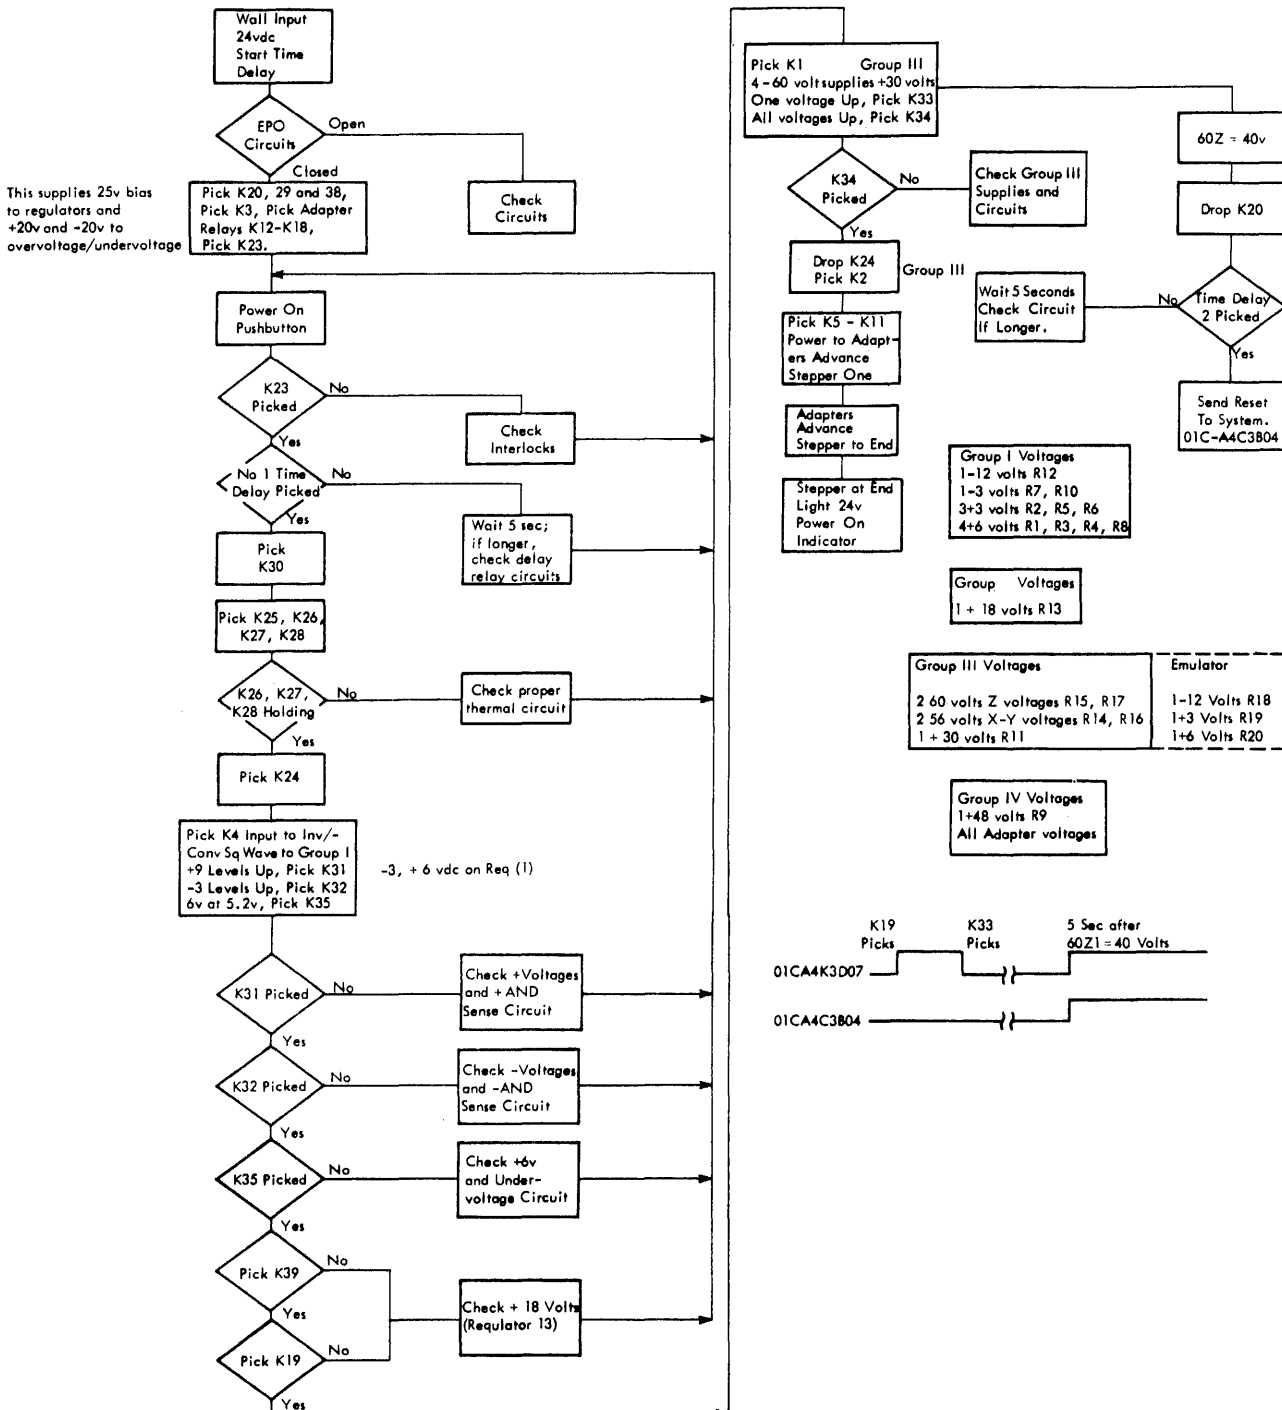

FIGURE 112. POWER ON SEQUENCE
- Figure 112 shows the power-on sequence.